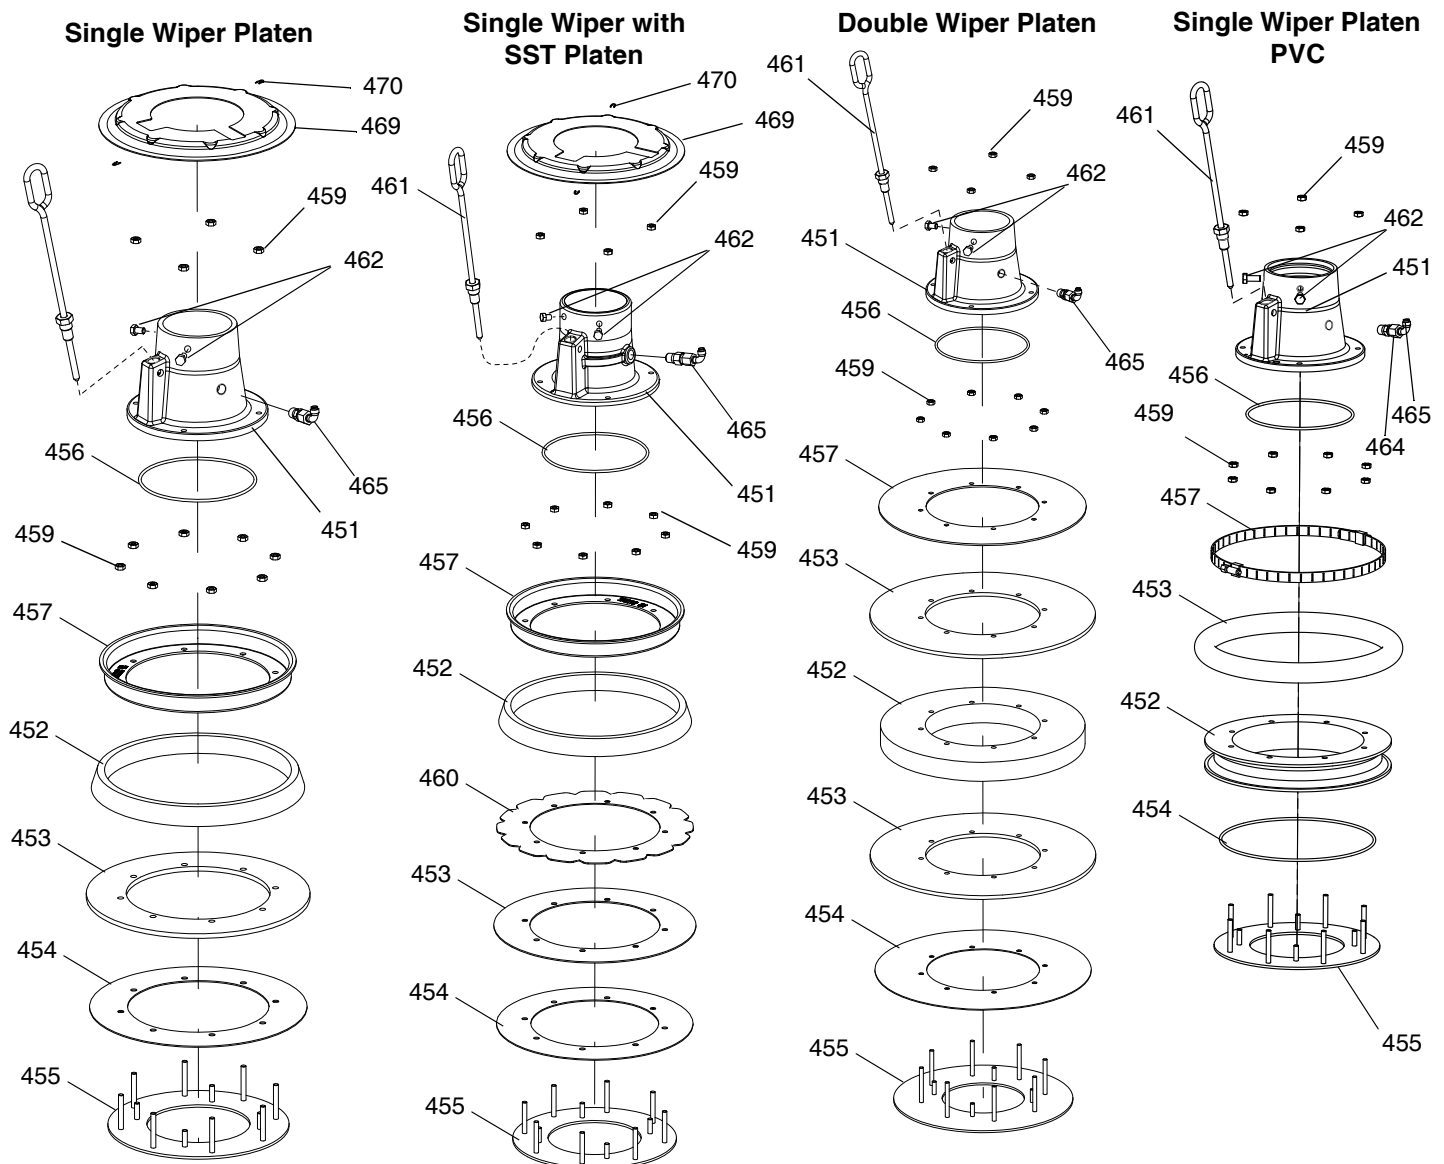

FIG. 14: Single and Double Wiper Assemblies
1. Remove wiper assembly; see FIG. 14:
- a. For all single wiper platens: Remove two clips (470) with needle nose pliers and remove platen cover (469).
- b. Remove eight nuts (459) that hold wiper assembly to platen casting (451) and remove wiper assembly.
2. Remove eight nuts (459) on wiper assembly.
3. Separate top plate (457), spacer (452), wiper(s) (453), wiper support (454), and bottom plate (455).